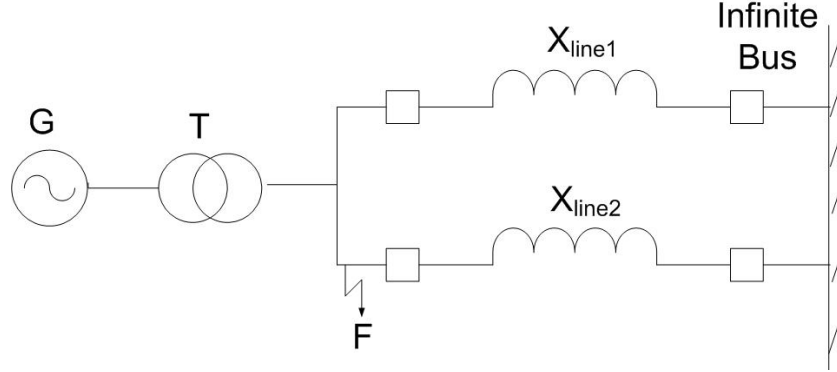

Figure 7: Fault at the sending end
**Fault at sending end.** When fault occurs near the sending end as in Figure 7, no power is send to the infinite bus. If we neglect the resistance of transformer and generator  $P_e$  is zero during fault. Since  $P_e$  is zero,  $P_m$  is used to accelerate rotor and this increases rotor angle to  $\delta_1$ . At